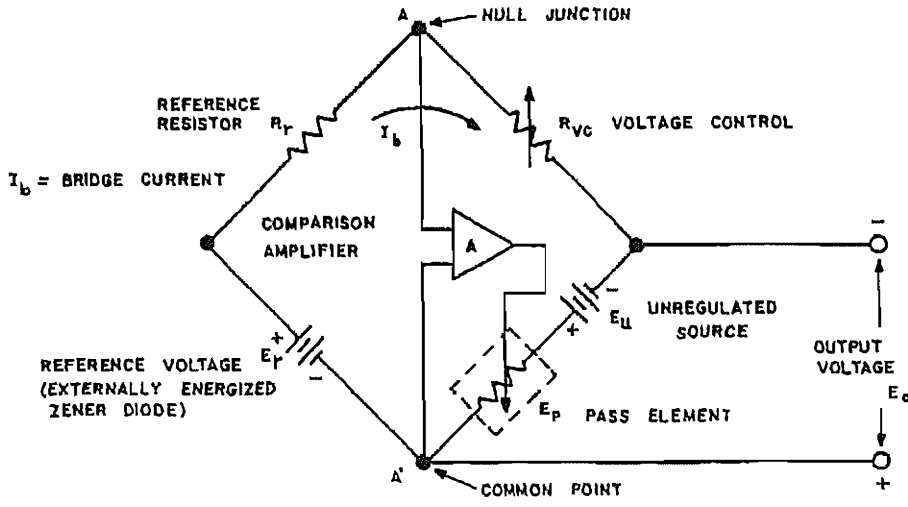

FIG. 3-4 KEPCO POWER SUPPLY AND COMPARISON BRIDGE CIRCUIT.
3-8 **GENERAL.** A few general remarks may be in order to familiarize the user of this equipment with the terminology and basic equations pertaining to remote programming of the Kepco PAT Power Supplies. Electrically, the power supply consists of the unregulated d-c source ( $E_U$ ), the pass element ( $E_P$ ), the d-c error amplifier (A), and a comparison circuit which resembles a 4-arm electrical bridge. (Refer to FIG. 3-4.) The elements of the bridge are arranged to produce a virtual zero at the amplifier input when the bridge circuit is at balance ( $V_{AA'} = 0$ ). Any tendency for the output voltage to change in relation to the reference voltage ( $E_r$ ) creates an error signal which, by means of negative feedback and the amplifier, tends to correct the output voltage towards restoration of bridge balance.